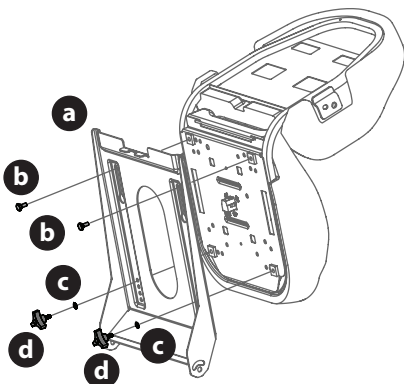

Fig. 4
- a. For a Knob Adjust seat insert bolts (b) in the rear holes and lock washer (c) and knobs (d) in the front. Tighten securely (Fig. 4).